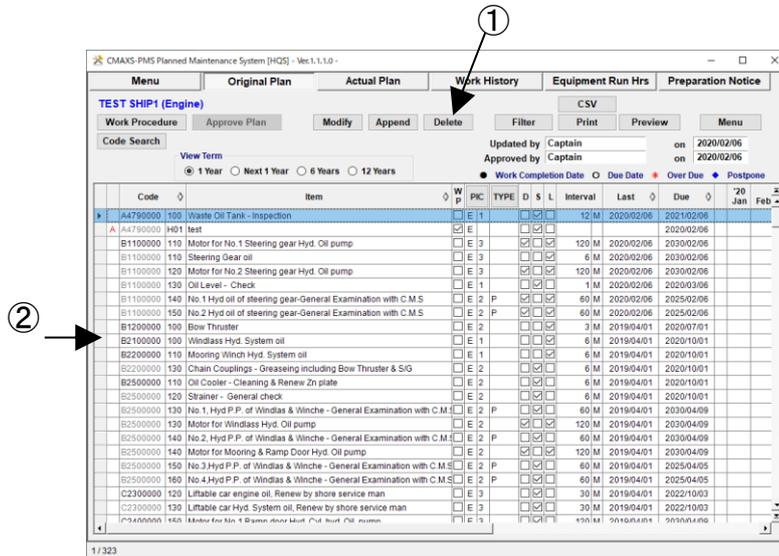

Fig.11-10 Original Plan screen
- (1) If you want to delete Crew's job, select the Delete button on the "Original Plan Screen" (Figure 11-10). You will be prompted to select OK.
- (2) The deletion mark (D) appears on the left side of the deleted work item.